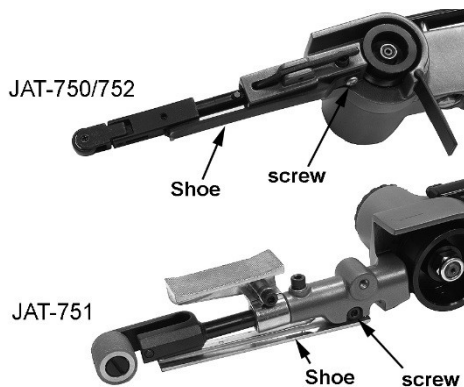

Figure 7
3. Remove screw(s) and remove old shoe (Figure 7).
3. Loosen hex socket cap screw (Figure 7).